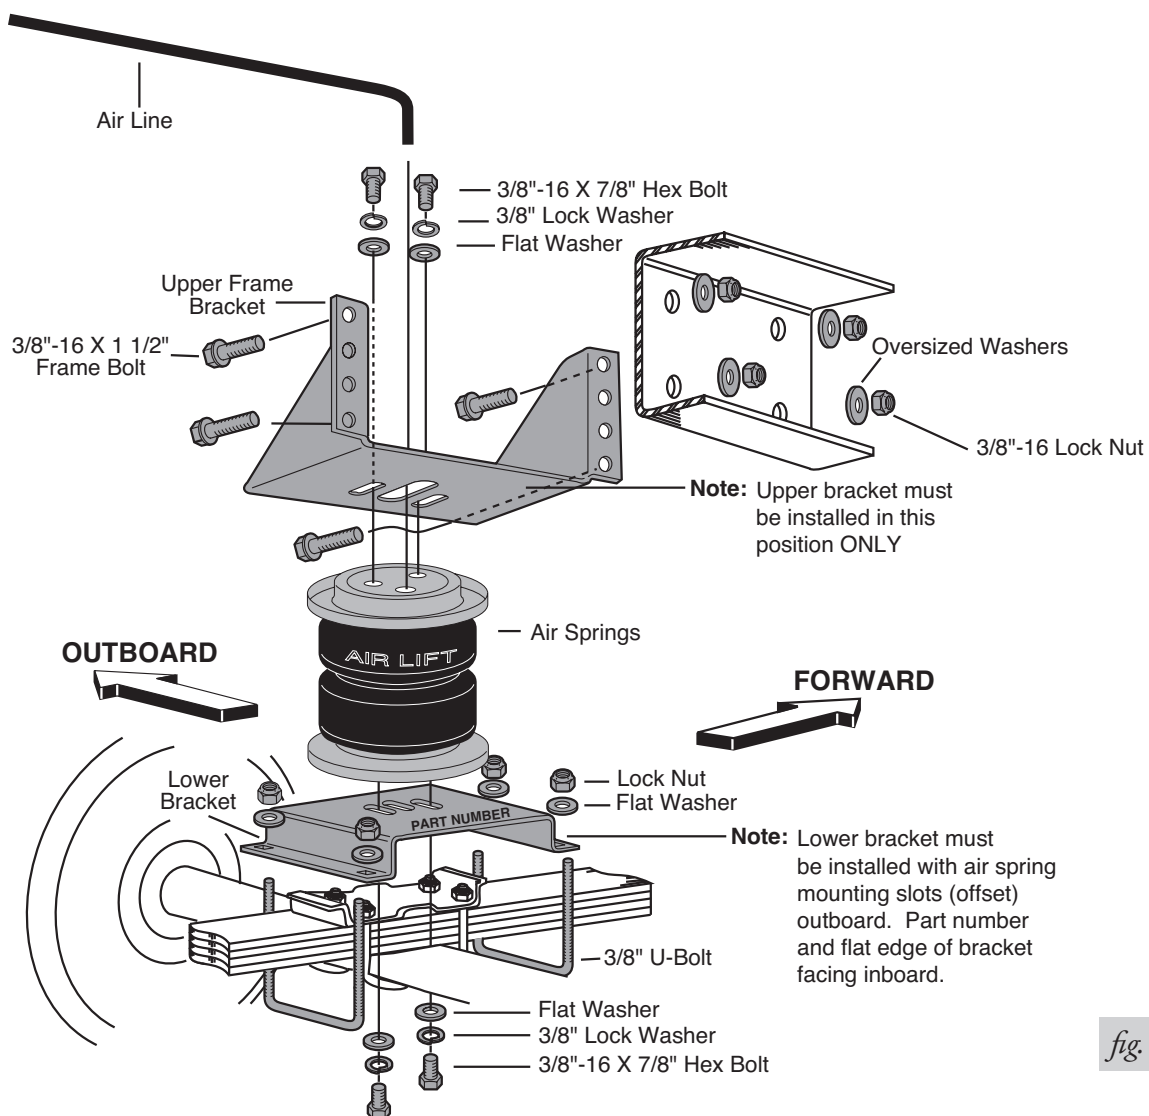

fig. 1
1. Set a roll plate on both ends of the air spring. The radiused (rounded) edge of the roll plate will be towards the air spring so that the air spring is seated in both roll plates (Figs. 1, 4 & 5).
2. Attach the lower bracket to the leaf spring using provided U-bolts, flat washers and lock nuts as shown in Figure 1.